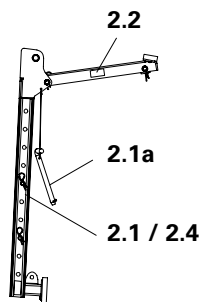

Fig. B1.03a
2. Fix Bracket Cantilever VGK 50 (2.2) to the Bracket Post VGK (2.1 / 2.4) using bolts and cotter pins. (Fig. B1.03a)